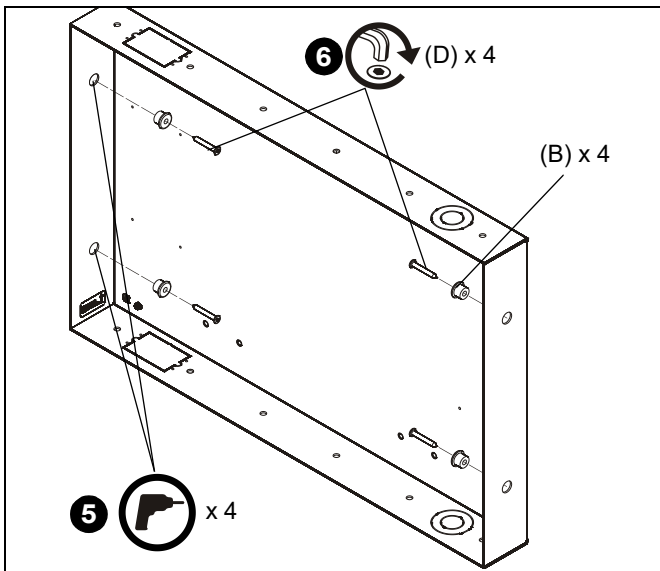

Figure 4
5. Drill four 3/16" diameter pilot holes in studs at side mounting holes. (See Figure 4)
6. Attach the TA500 (A) to side studs using four M7 x 50mm Allen head connector screws (D) and mounting spacers (B) using an M4 Allen head drill bit (E). (See Figure 4)